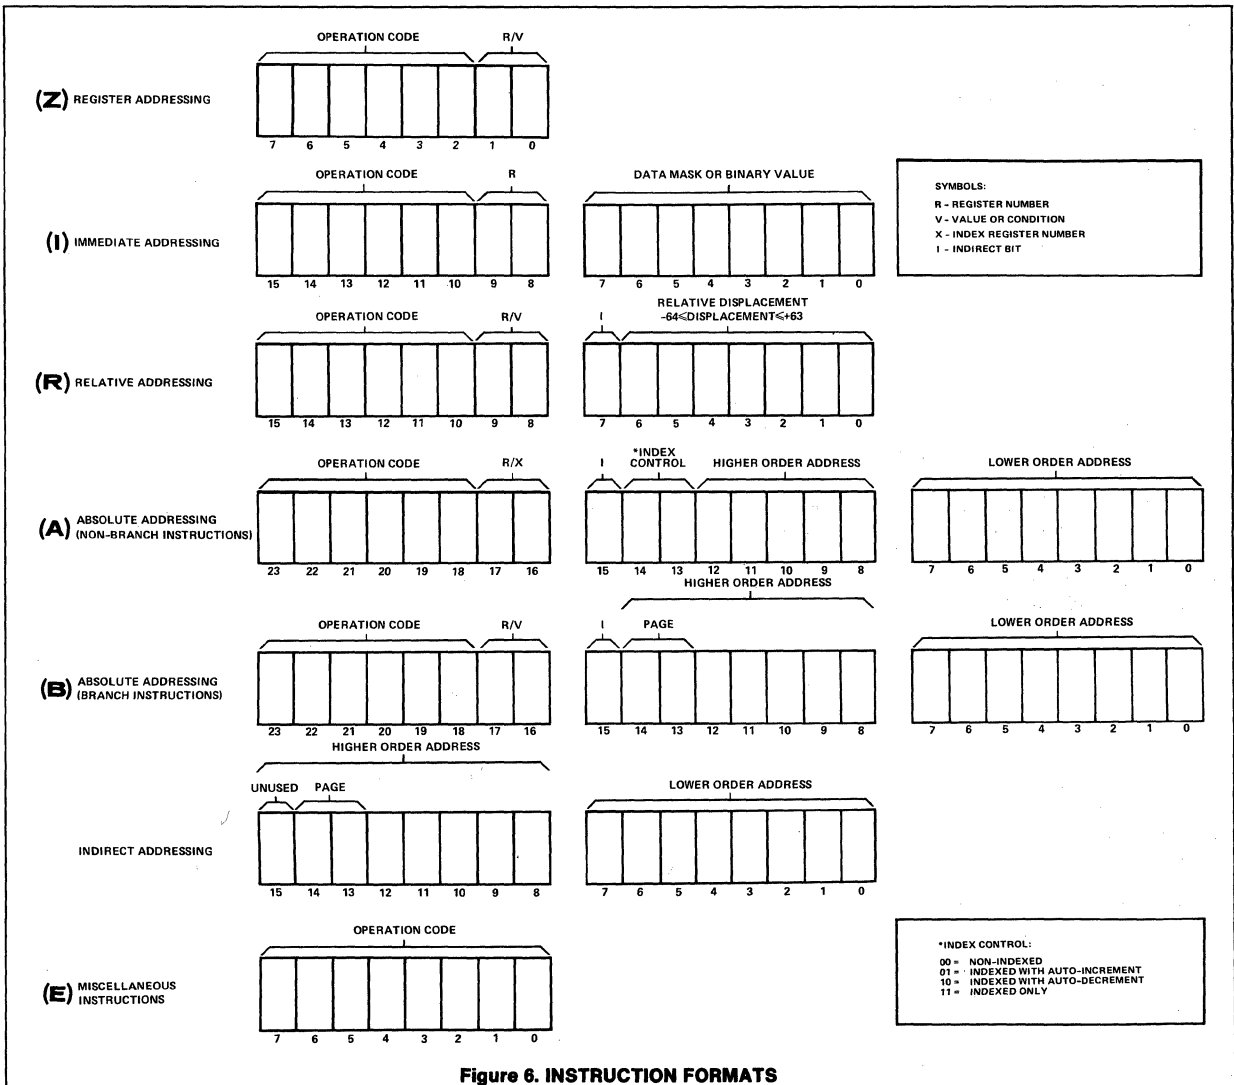

Figure 6. INSTRUCTION FORMATS
*FORMAT CODE: The number indicates the number of bytes. The letter(s) indicate the format type(s). See Fig. 6.